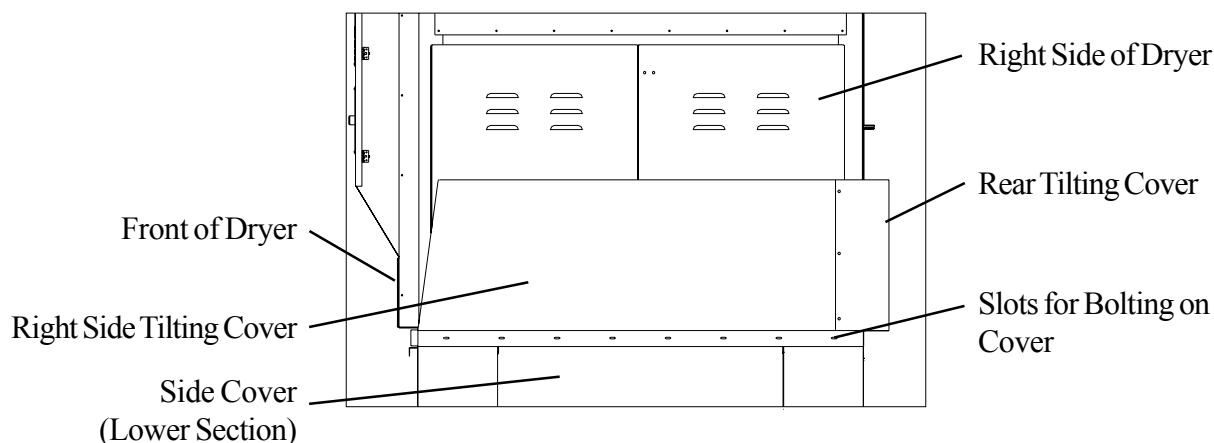

Figure-7A
STEP 14: There are five tilting covers that need to be put in place before operating the dryer. Put the right side tilting cover on the dryer first. The end of the cover that has an angle cut goes toward the front of the dryer. When you are holding the right tilting cover the bent flange on the bottom should be bent away from you. The stiffener at the top of the guard should not be visible. Put the tilting cover on the dryer as shown in Figure-7A & 7B. The front edge of the tilting cover should be even with the front of the dryer's frame. You will need to align: the slots in the tilting cover; the holes in the lower side cover; and the tapped holes in the dryer frame when bolting on the tilting cover. The remaining slots in the cover can be attached using sheet metal screws.
STEP 16: Put on the rear tilting cover. The flange with the hinges welded on it goes down and the end flanges go on the outside of the side tilting valences (See Figure-7A). Attach the rear tilting cover using sheet metal screws through the slots located in the hinges on the bottom of cover. The nylon rub plates on the rear cover should be touching the outside of the side covers when the rear cover is pivoted up in position. Attach the “S” (PAN455) hook in the hole in the stiffener in the rear cover on the right side. Attach another “S” hook in the hole of the stiffener of the side cover on the right side. Connect two extension springs (PAN454) between the two “S” hooks. Repeat the process for the left side.